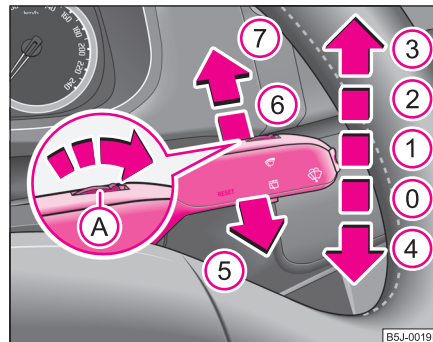

Fig. 45 Windscreen wiper lever
The windscreen wiper lever ⇒ fig. 45 has the following positions:
- Push the lever away from the steering wheel into position ⑥ ⇒ page 64, fig. 45, the widescreen wiper will operate every 6 seconds.
The headlights are being cleaned after the windscreen washer system has been operated for the fifth time, the low beam or main beam are switched on as well as the windscreen wiper lever is held in the position ⑤ ⇒ page 64, fig. 45 for about 1 second. ►